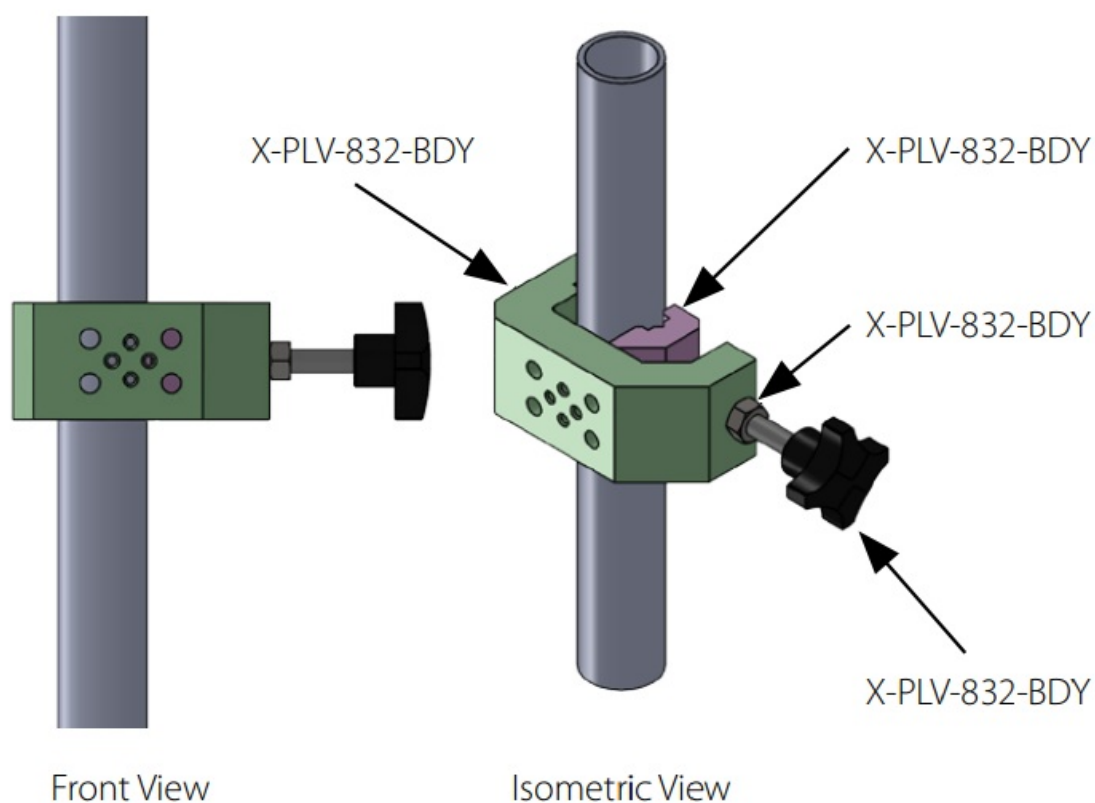

Figure 4
2. Tighten the nut (H-LNUT-M8-NYL) by rotating it clockwise onto the clamp body (X-PLV-832-BDY). (Figure 4)